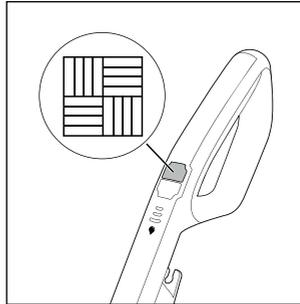

Fig. 13
- ◆ Press the hard floor switch  **14** to switch the appliance on (see fig. 13). The LED on the hard floor switch  **14** lights up blue.
- ◆ Press the hard floor switch  **14** again to switch the appliance off (see fig. 13).